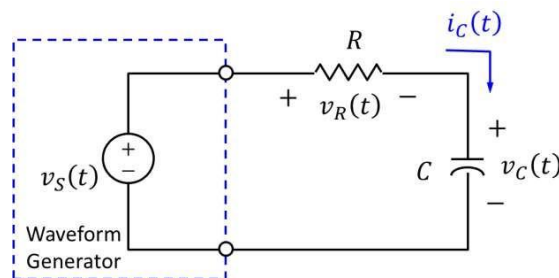

Figure 1 - RC circuit
This laboratory assignment will reinforce the concepts learned in class about the behavior of RC and RL circuits. The circuit diagram shown in Figure 1 shows a series RC circuit. In the laboratory experiment the waveform generator will be used in place of the voltage source  $v_s(t)$ .
1. On your breadboard, build the circuit shown in Fig. 1 using  $R = 1k\Omega$  and  $C = 0.01 \mu F$ .